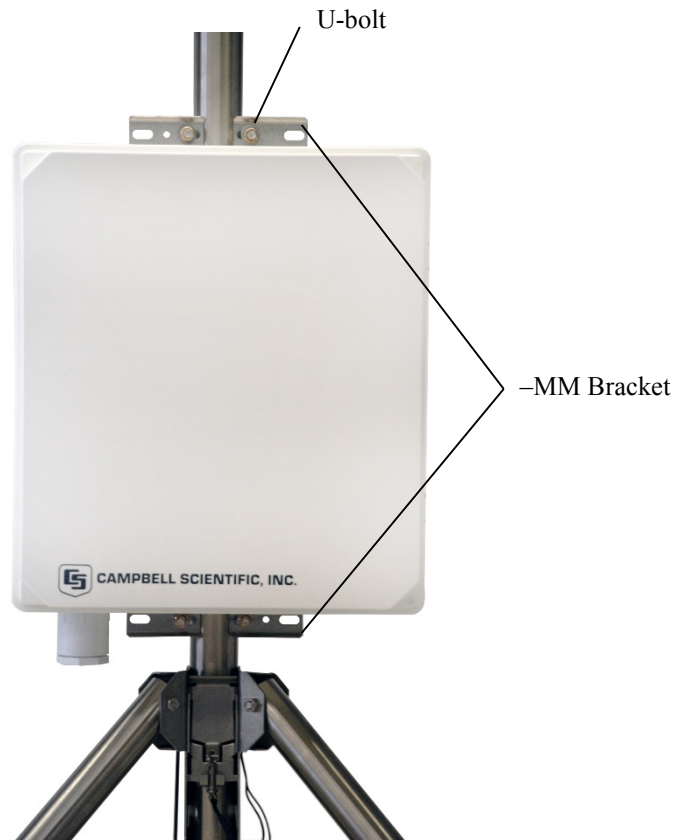

FIGURE 6-14. Enclosure with the -MM bracket
- Route the 14 AWG wire from the ground lug on the bottom side of the enclosure to the ground lug on the base of the tripod (FIGURE 6-14). Strip 1/2 in. of insulation from each end of the wire. Insert wire ends into the ground lugs and tighten.